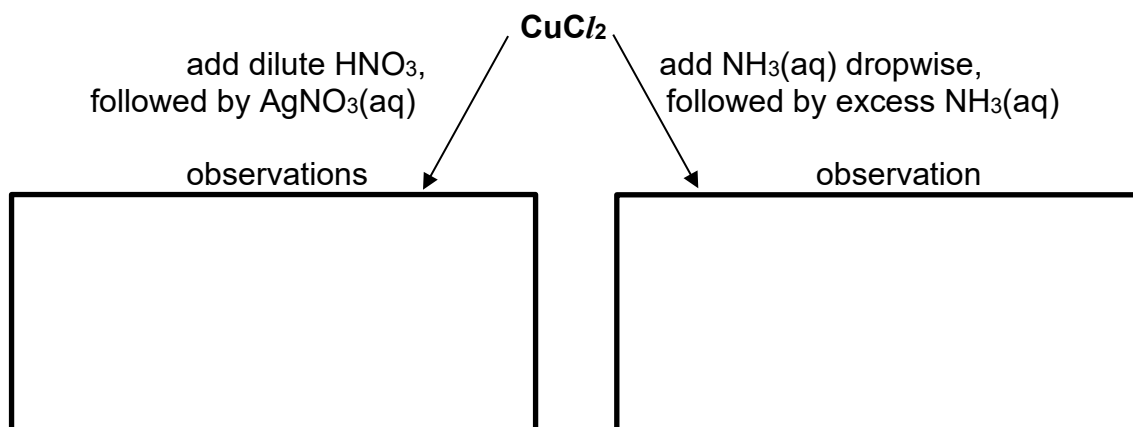

Fig. 4.2
- (b) Copper is a typical transition element with many of its compounds having colours. An example is copper(II) chloride solution, CuCl_2 , which is green-blue in colour.
- (i) Complete Fig. 4.2 with the expected observations when CuCl_2 undergoes the different reactions.